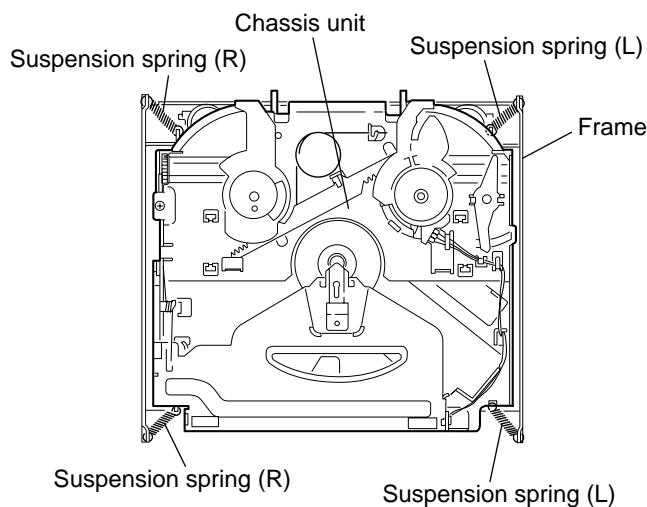

Fig.7
■ Removing the chassis unit (See Fig.7 and 8)
1. Remove the two suspension springs (L) and (R) attaching the chassis unit to the frame.